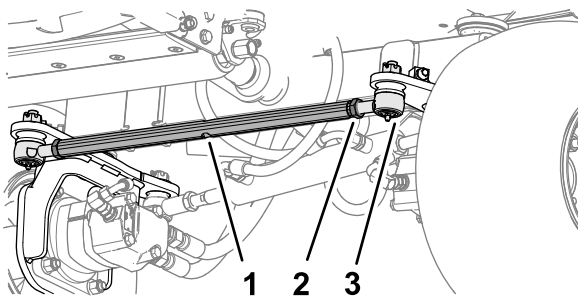

Figure 65
1. At the front of the rear wheel, loosen the 2 jam nuts securing the track rod assembly to the rod ends (Figure 65).
2. Align the wheels by rotating the track rod (Figure 65).
5. Tighten the 2 jam nuts to secure the track rod assembly and the rod ends (Figure 65).